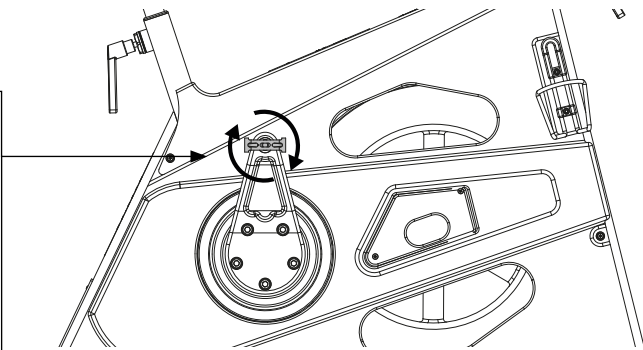

Figure 9
The pedals should always be screwed on in the direction of the handlebar, see figure 9 and 10.
1) Remove the adjustment handle and disassemble the handle completely into a screw, a spring, a handgrip, a main screw and a brass washer, see figure 9. Do this with both the horizontal and vertical adjustment handle. **You don't need to remove the 32mm nut.**